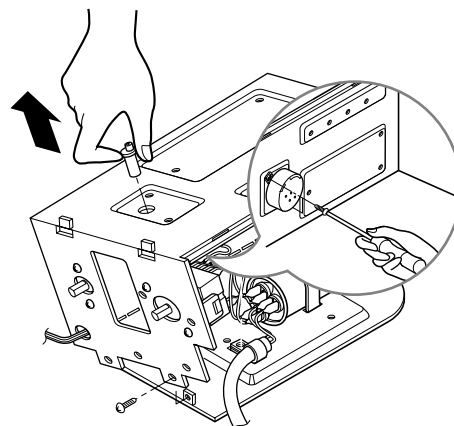

Figure 15
5. Remove the 2 screws which fasten the synchronous motor. (See figure 15)